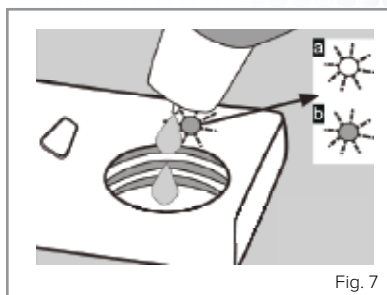

Fig. 7
- Fill the rinse aid compartment until the rinse aid indicator goes dark (Fig. 7, where “a” indicates the compartment is empty, and “b” indicates the compartment is full).